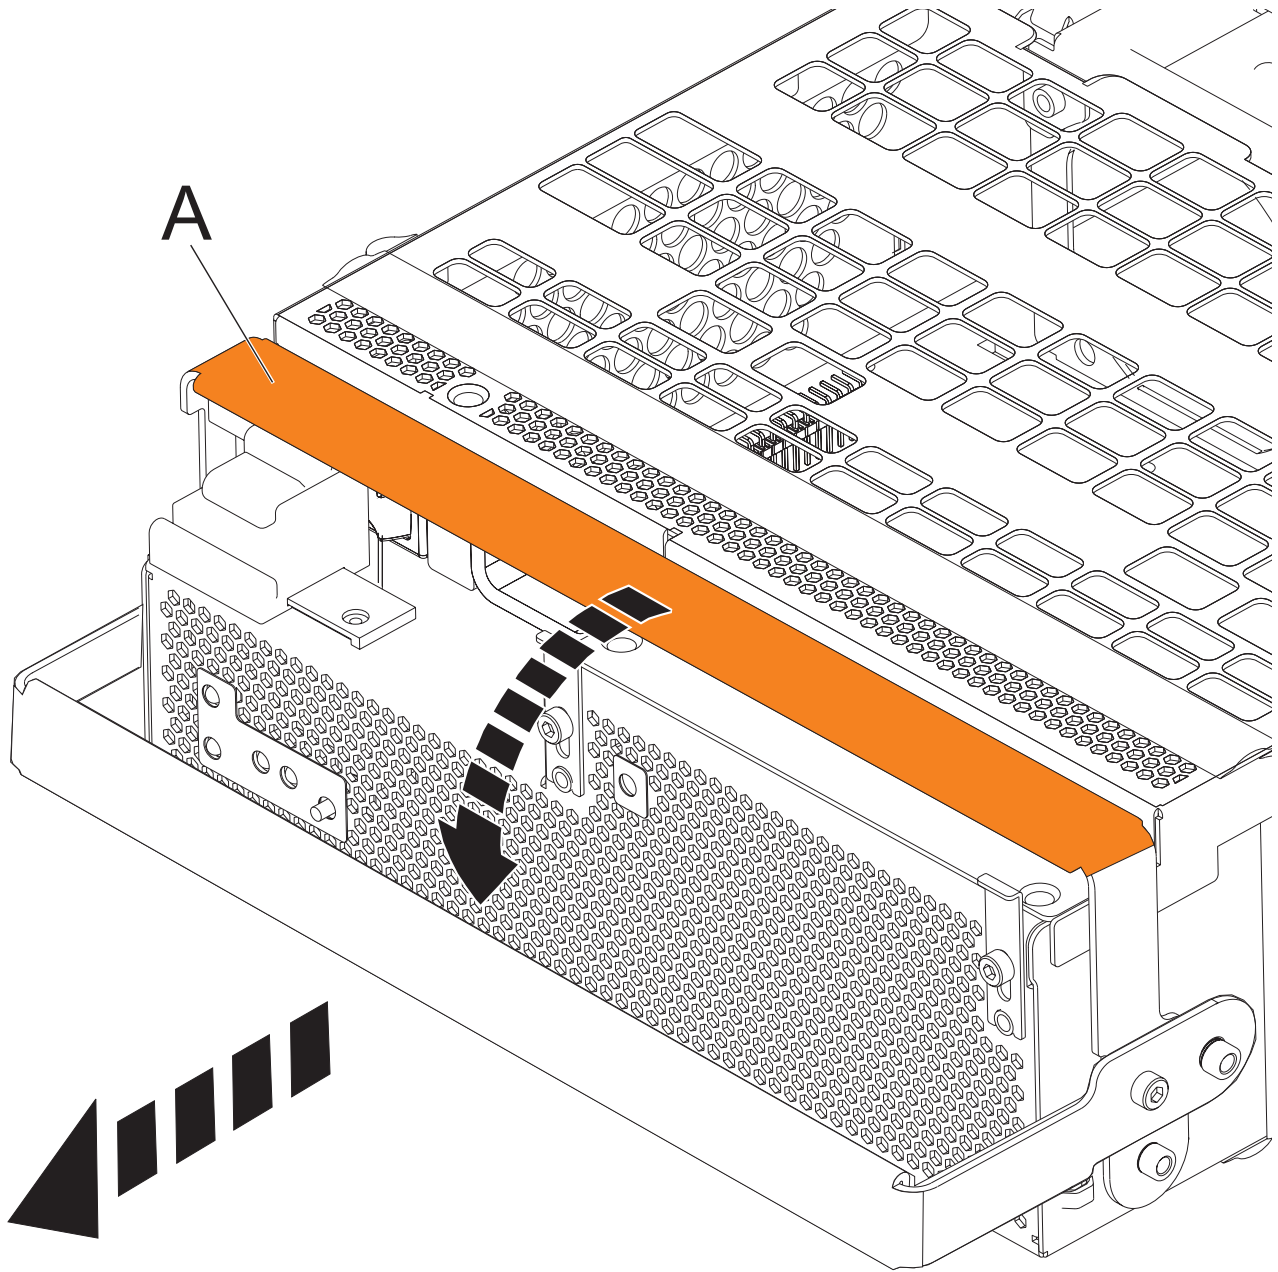

Figure 68. Remove the offline converter assemblies
- a. Pull the OCA handle (A) all the way down in the direction shown to unseat the OCA. See Figure 68 on page 89.